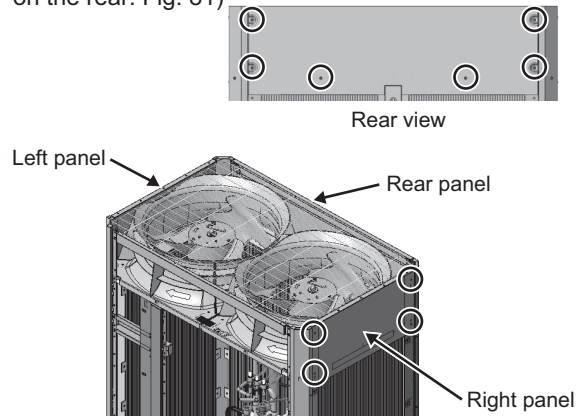

Fig. 81
(5) Remove the top panel except the front panel. (Four screws on the left and right each, and six screws on the rear: Fig. 81)